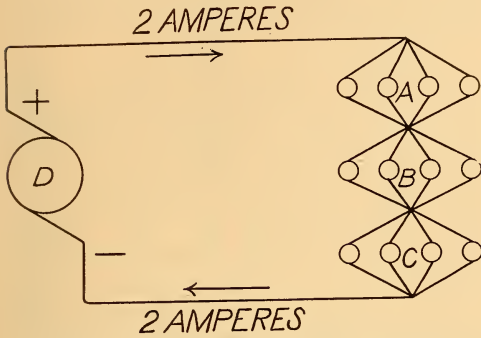

FIG. 25. SERIES-MULTIPLE CIRCUIT.
In the series-multiple circuit, represented in Fig. 25 (Fig. 28, p. 63, Ibid), a dynamo (D), capable of sustaining a pressure of 330 volts on the positive and negative mains, respectively, is shown as connected with three multiple groups of incandescent lamps (A), (B) and (C). These multiple